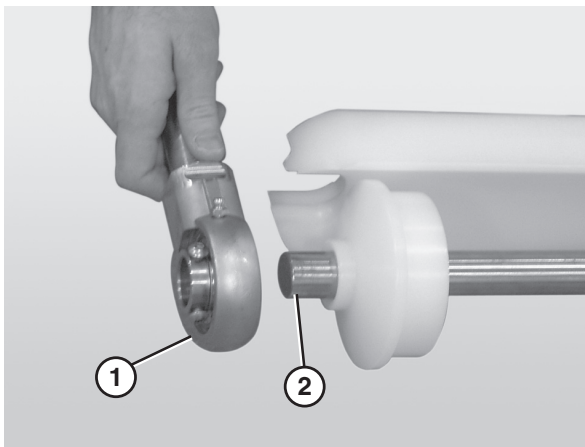

Figure 76
5. Slide the bearing shaft assembly (**Figure 76, item 1**) off the idler shaft (**Figure 76, item 2**).